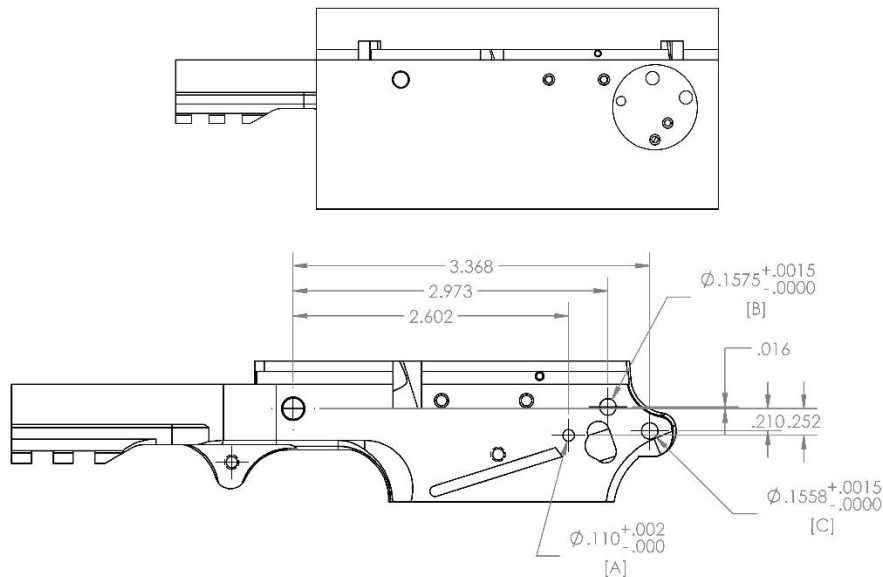

Figure 2. Drill Sizes. This Face Up.
- 2 Place the Rudius Jig Assembly into your drill vice, with the drill plate facing up (See Figure 2).
- 3 Drill each of the holes listed below through both sides of the Rudius. You will need the following drill sizes (See Figure 2):